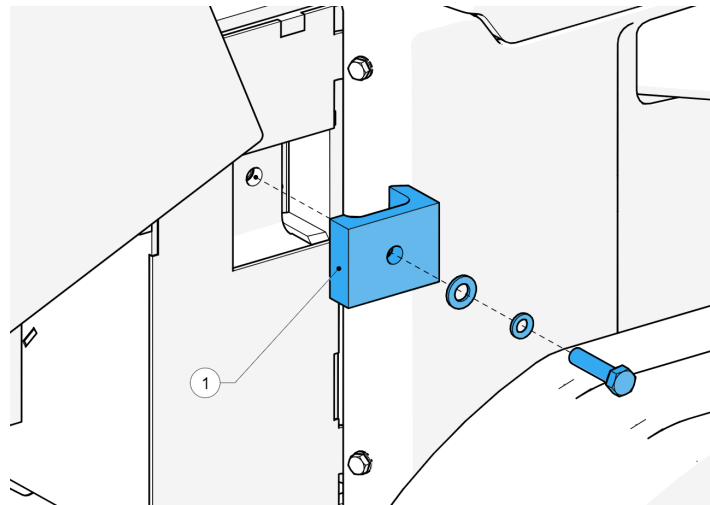

Figure 64 - Anvil clamp position
4. Locate the anvil clamp (1, Figure 64).